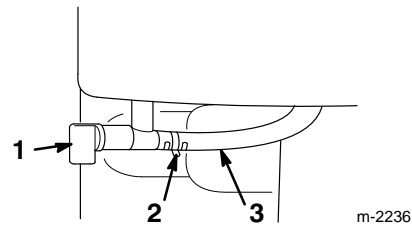

Figure 20
- **Fuel Shut-Off Valve** (Fig. 20)—Close the valve by rotating it to the right to stop the fuel flow. Open the valve by rotating it to the left. Close the valve when you do not use the snowthrower.
3. Open the fuel shut-off valve below the fuel tank (Fig. 20).